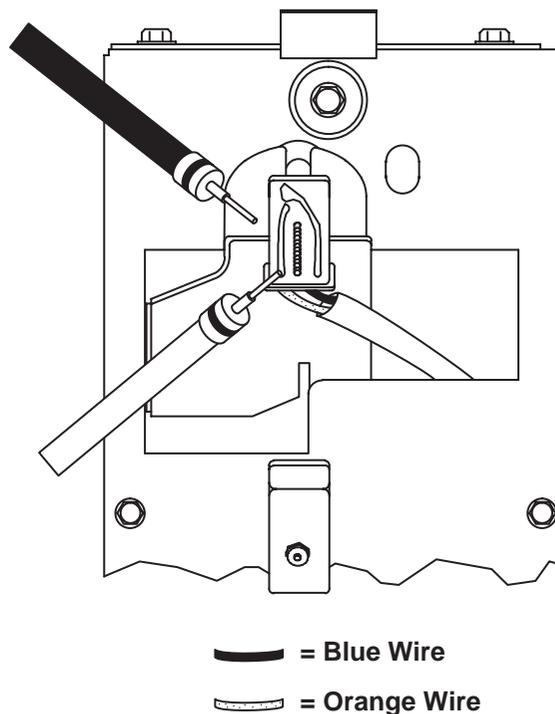

Figure 3-6B. Sensor Check
6. Move the + meter lead to the orange wire on the phototransistor as shown in *Figure 3-6B*. The meter should indicate between 3.5 and 5.0 volts DC.